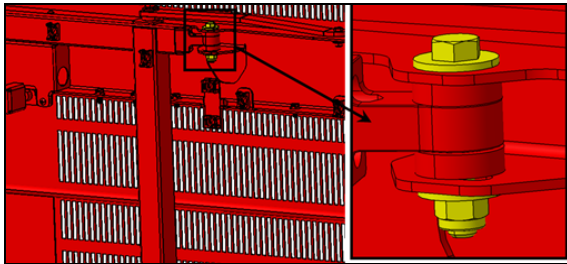

FIGURE 115
6. If the longitudinal position is out of tolerance, adjust using the adjustment provided on the inner side of the door, at the upper attachment point of the arm on the door (FIGURE 115).